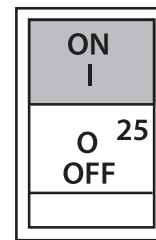

Figure 28. Main Circuit Breaker (ON)
- Place **main** circuit breaker (Figure 28) in the **ON** position.